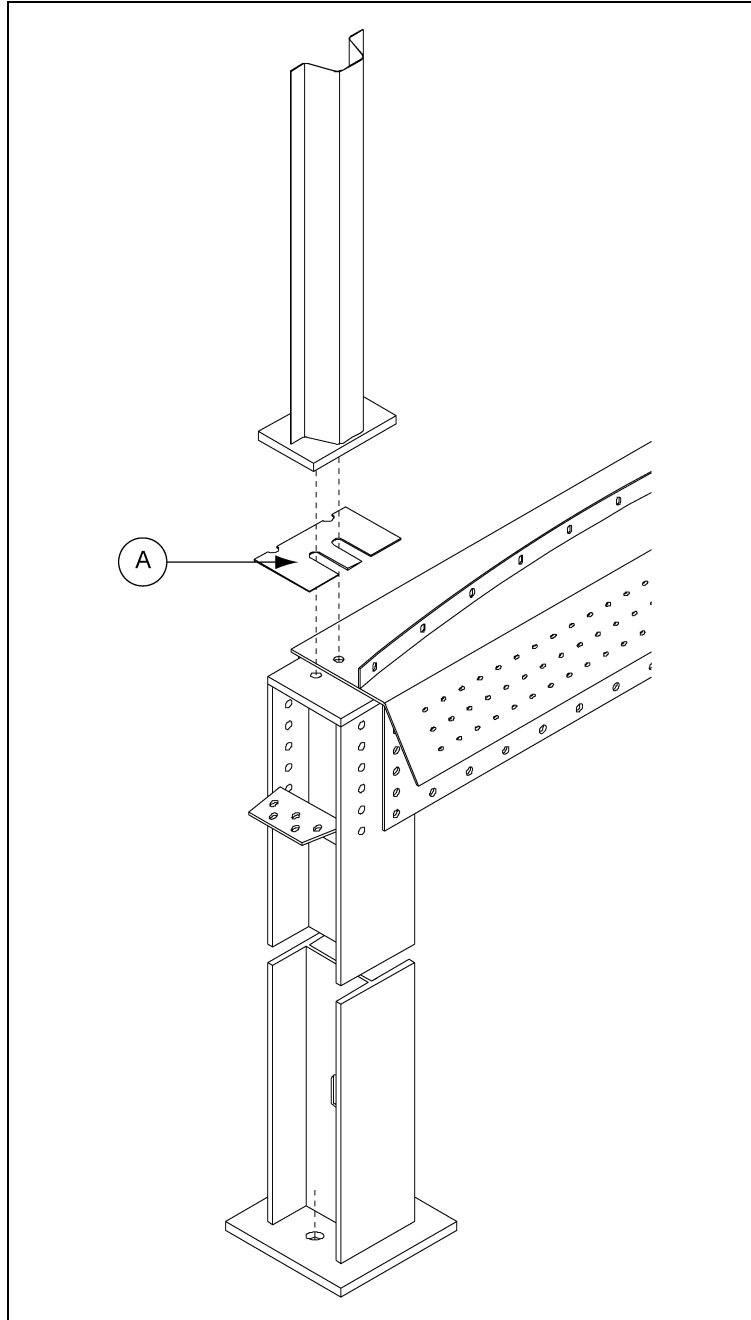

Figure 14A
The shim plates should be used where necessary to ensure the base plates are firmly supported by the columns. Use the shim plates to fill any gaps between the base plate and the compression weldment. (See Figure 14A.) Attach the base stiffener to the stiffener column and compression weldment with 5/8" x 2-3/4" bolts (two (2) per stiffener). Place a washer on the top side of the stiffener base plate.